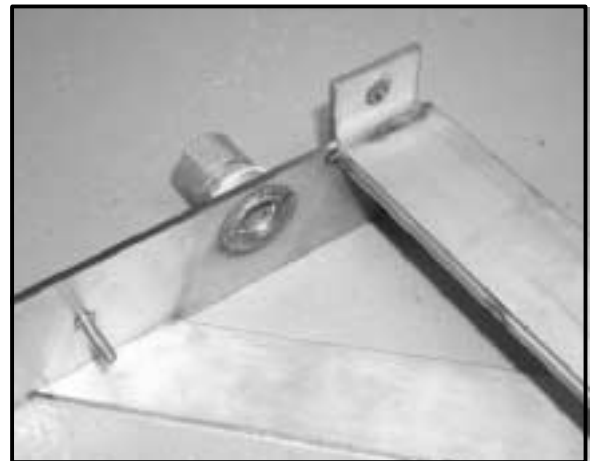

Figure 5
3. A grounding stud is supplied on the inside of the installation base. See Figure 5.